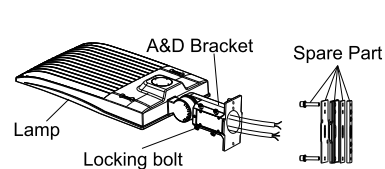

Figure 17
Step 1: Remove the spare parts from A&D bracket. (Figure 17).